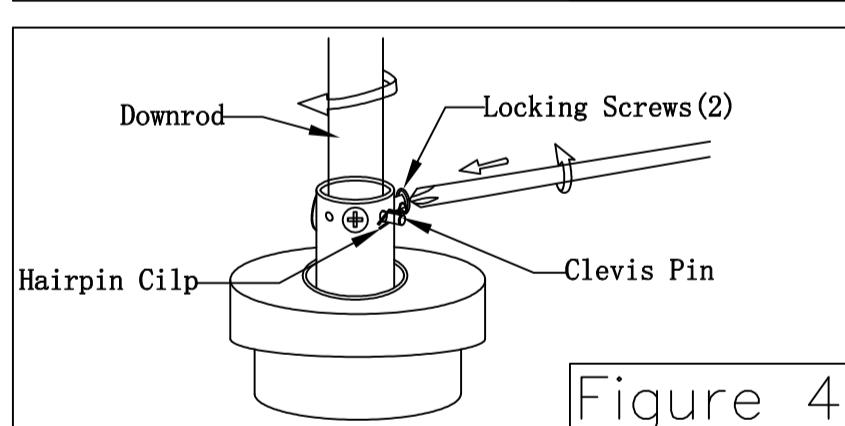

Figure 4
□ Thread down rod into the down rod support on top of the motor. Install the clevis pin by aligning the hole in the down rod support with holes in the down rod. Secure clevis pin with hairpin clip. Tighten the two setscrews with in the down rod support. (Figure 4)